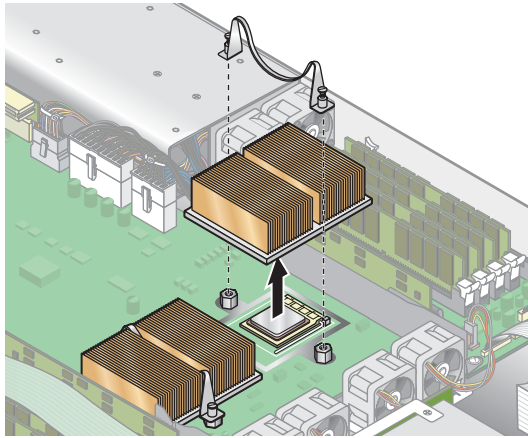

FIGURE 4-29 Removing The Securing Clip And Heatsink
3. Unfasten the two securing screws and remove the heatsink securing clip (see FIGURE 4-29).